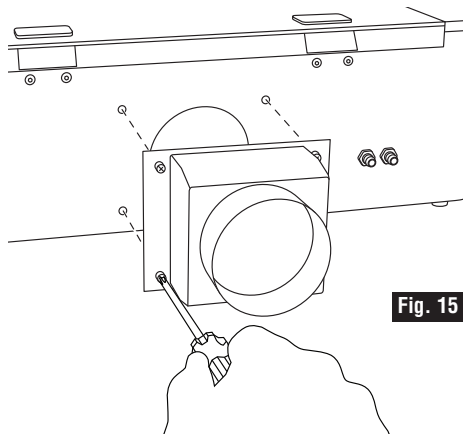

Fig. 15
Using a screwdriver, attach the exhaust shroud to the back of the laser cutter, Fig. 15. Ensure that the shroud is flush against the back surface of the laser cutter.
- Always duct the exhaust to the outside of the building away from where people may congregate. For exhaust placement recommendations relative to windows, doors, air inlets and other opening see figure 15.